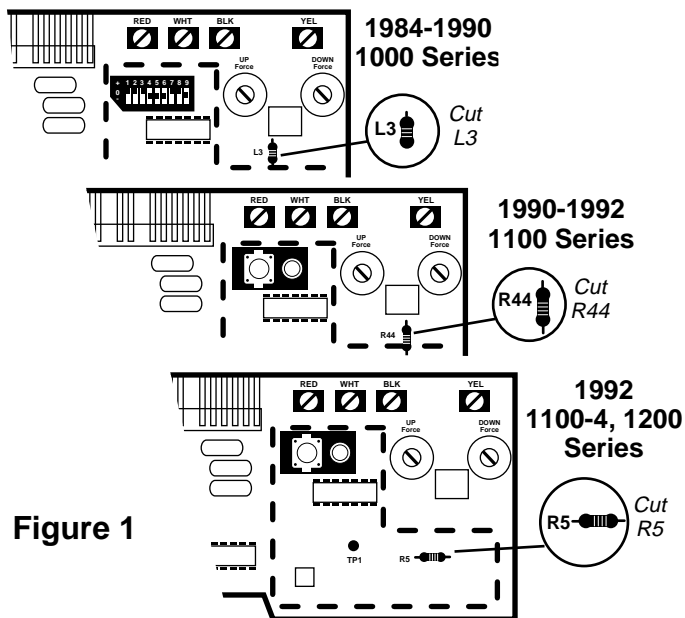

Figure 1
- If it is an integrated receiver, either clip off the component that feeds power to the receiver (for Lift-Master, Sears and Chamberlain openers, see Figure 1) or remove the tuning slug and antenna from the receiver section.